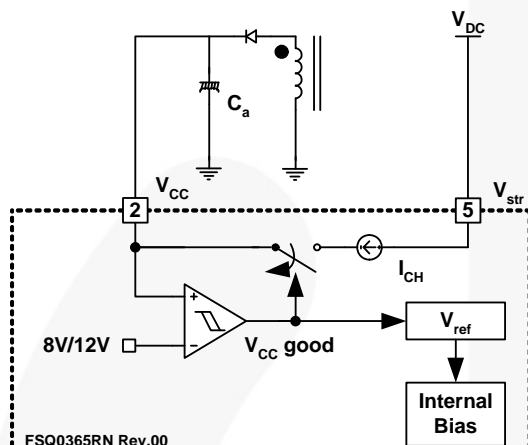

Figure 20. Startup Circuit
1. Startup: At startup, an internal high-voltage current source supplies the internal bias and charges the external capacitor (C_a) connected to the V_{CC} pin, as illustrated in Figure 20. When V_{CC} reaches 12V, the FPS™ begins switching and the internal high-voltage current source is disabled. The FPS continues its normal switching operation and the power is supplied from the auxiliary transformer winding unless V_{CC} goes below the stop voltage of 8V.